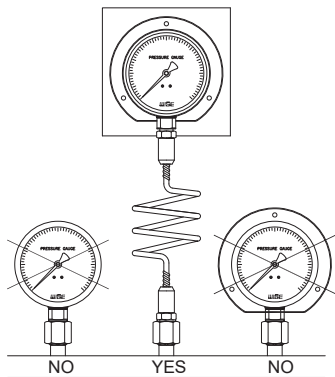

Figure 9
- 1) It is required to find out followings before using the gauge. (Figure 9)